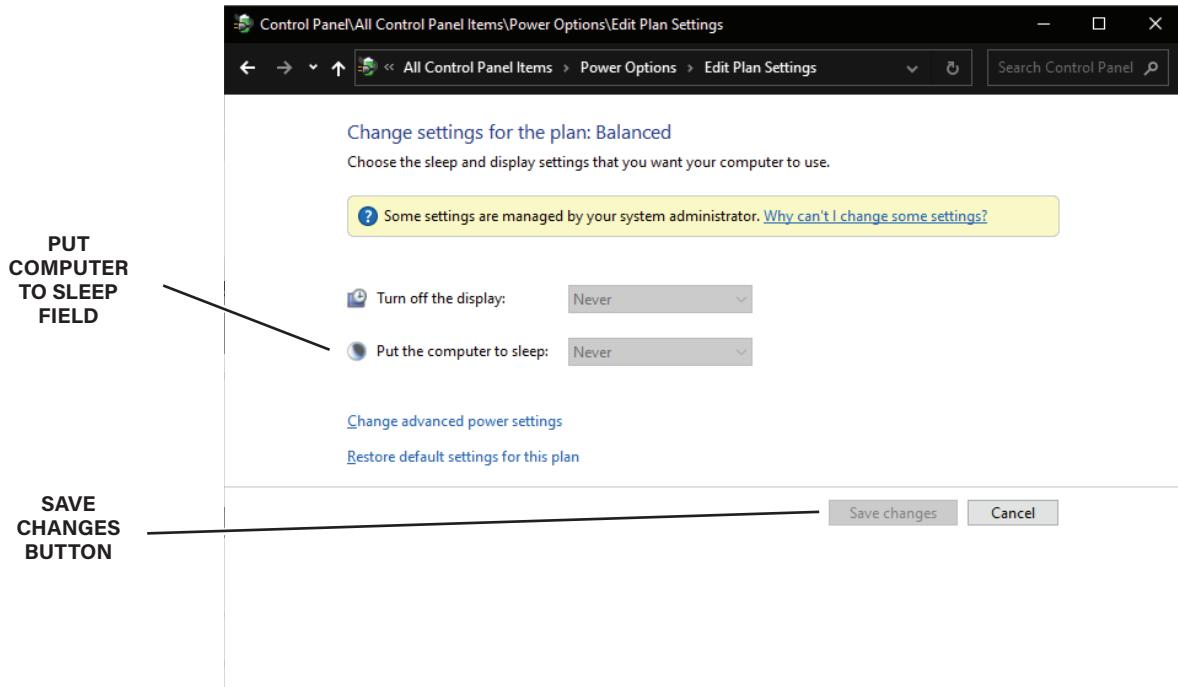

Figure 74. Power Options Properties
- F. Verify that the **Put the computer to sleep** field contains the **Never** option, as shown in figure 74. If not, click the drop list arrow and select the option from the list.